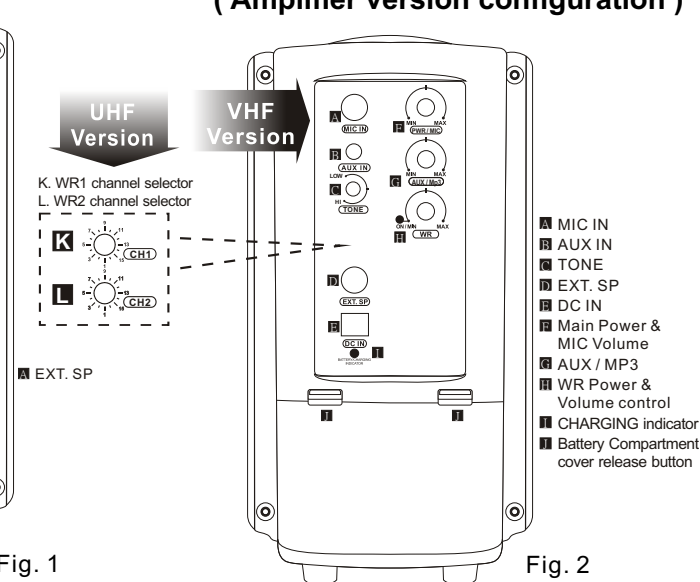

Fig. 2
2. SMART 300 portable sound system only (VHF / UHF) (Fig.2)